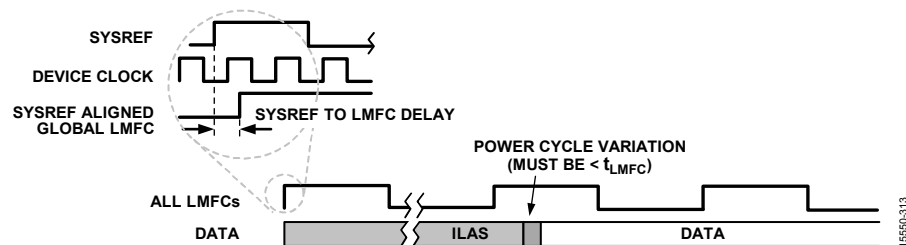

Figure 143. SYSREF and LMFC
The JESD204B protocol organizes data samples into octets, frames, and multiframe as described in the Transport Layer section. The LMFC is synchronous with the beginnings of these multiframe. In Subclass 1 operation, the SYSREF signal synchronizes the LMFCs for each device in a link or across multiple links (within the AD9689, SYSREF also synchronizes the internal sample dividers), as shown in Figure 143. The JESD204B receiver uses the multiframe boundaries and buffering to achieve consistent latency across lanes (or even multiple devices), and to achieve a fixed latency between power cycles and link reset conditions.
- The total latency variation across all lanes, links, and devices must be ≤ 1 LMFC periods (see Figure 143). This includes both variable delays and the variation in fixed delays from lane to lane, link to link, and device to device in the system.